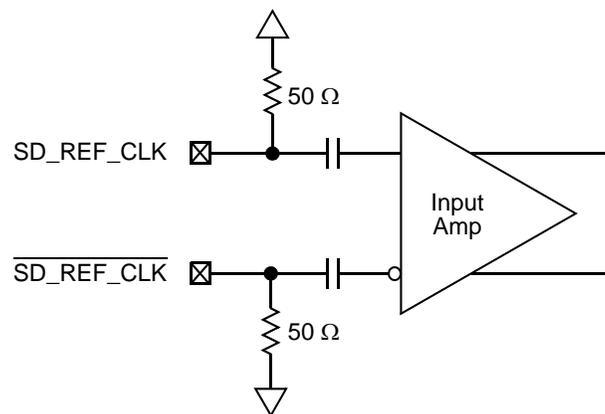

Figure 39. Receiver of SerDes Reference Clocks
- The SD\_REF\_CLK and  $\overline{\text{SD\_REF\_CLK}}$  are internally AC-coupled differential inputs as shown in Figure 39. Each differential clock input (SD\_REF\_CLK or  $\overline{\text{SD\_REF\_CLK}}$ ) has a 50- $\Omega$  termination to SGND\_SRDS $_n$  (xcorevss) followed by on-chip AC-coupling.